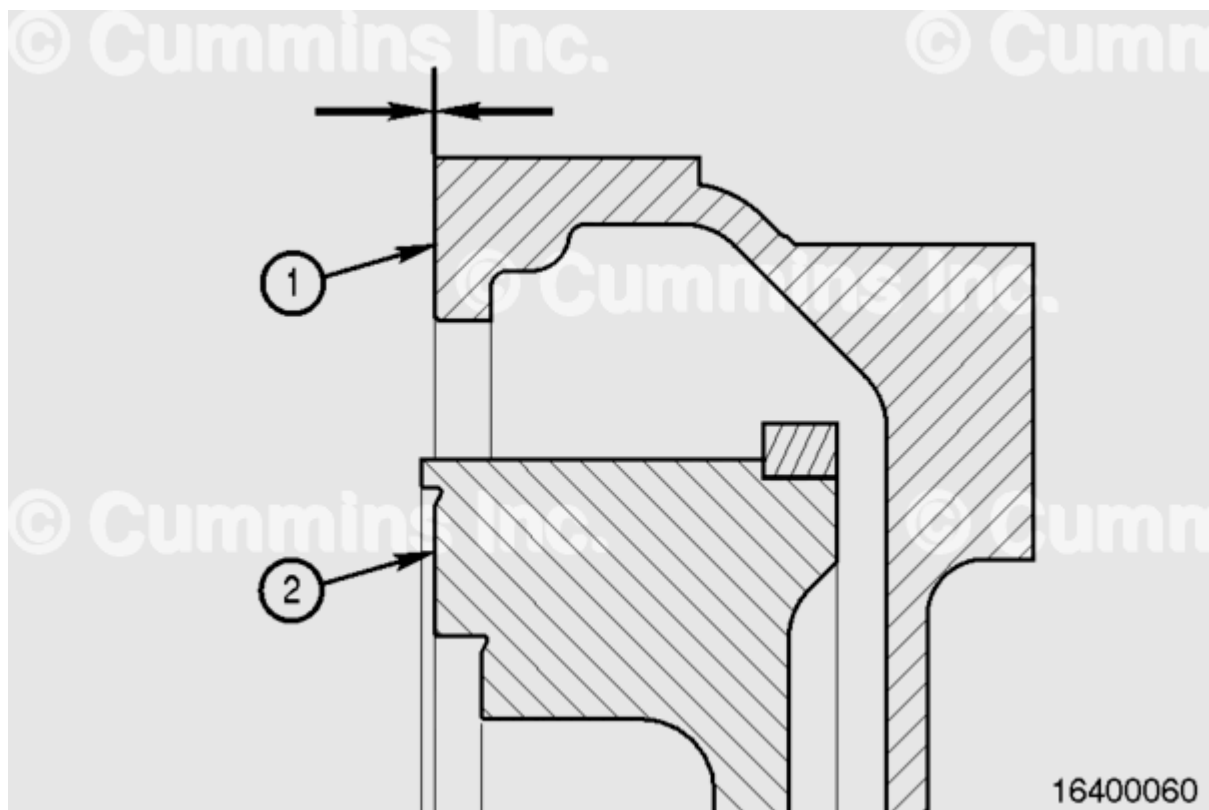

Figure 6: Nominal Flywheel/Flexplate Position
- Measure and record the distance relative to the flywheel housing face to the mounting face of the flywheel/flexplate at four locations spaced 90 degrees apart, as shown in Figure 6. Record the average of these four measurements as Crank Rear Position (CRP).
- Measure and record the distance relative to the flywheel housing face to the mounting face of the flywheel/flexplate at four locations spaced 90 degrees apart, as shown in Figure 6. Record the average of these four measurements as Crank Forward Position (CFP).